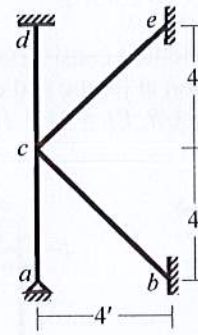

Fig.10
9. Calculate 1st natural frequency of the frame  $abcde$  shown in Fig.10 using consistent mass matrices (Considering rotations at  $a$  and  $c$  only)